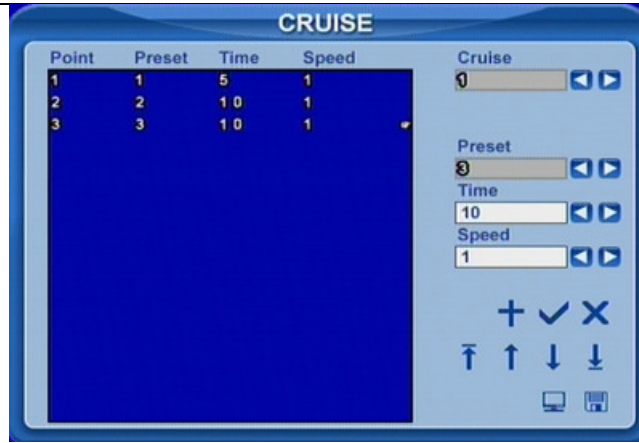

Fig 3.28 Set Cruise
STEP4 Click Set button at right of Cruise. Here users can set cruise track, shown as Fig 3.28 Set Cruise. Choose the preset, set stay time of every preset. Click + button to add the preset to the left preset for cruise track.